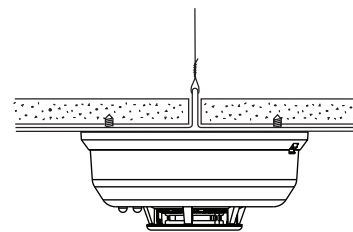

Figure 3. Mount Detector Across Ceiling Panel Support
**DO NOT** attach the detector to removable ceiling panels. Attach the detector across panel support as shown in Figure 3.